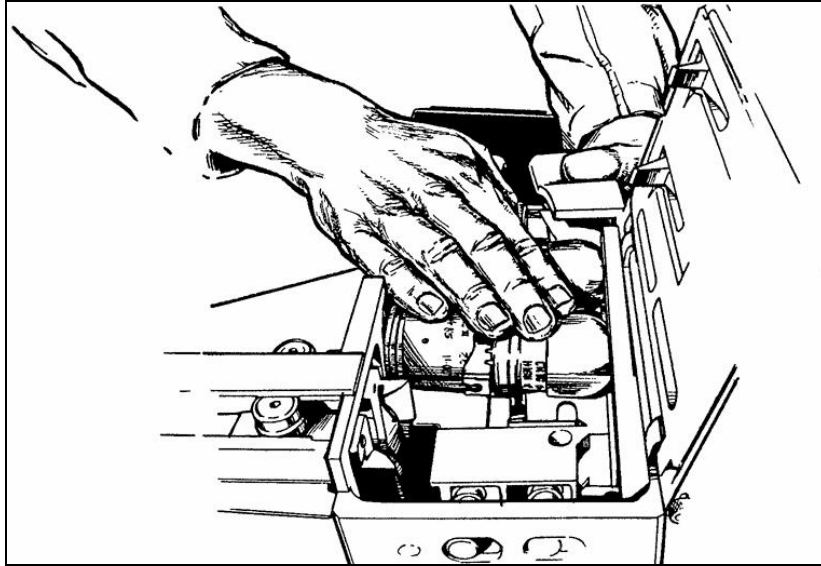
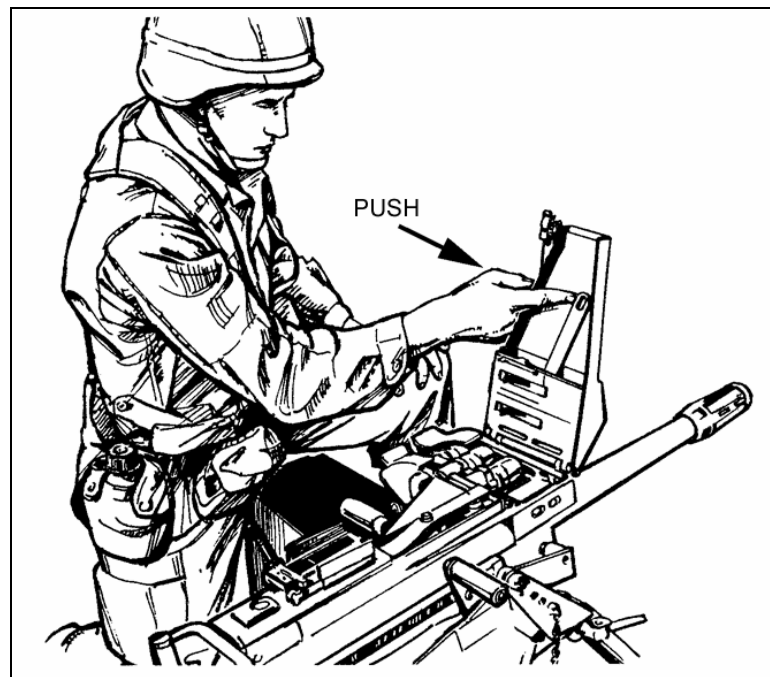

Figure H-10. Placement of the round across the primary feed pawl.
Figure H-11. Feed slide assembly moved to the left.
d. The gunner opens the top cover. The assistant gunner inserts the first round into the feeder (female link first), pushes the first round across the primary feed pawl (Figure H-10), and moves the feed slide assembly to the left by pushing the secondary drive lever to the right (Figure H-11).